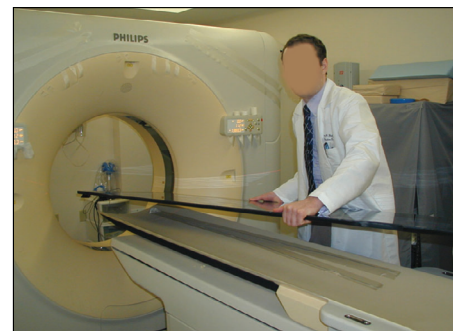

Fig. 39
1. Set the CT Overlay on CT cradle overhanging the head end by 3–4 in (Fig. 39).